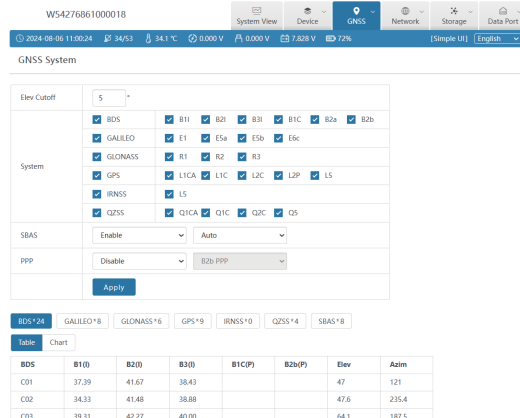

Figure 2.3-2
- ① GNSS System: Elev Cutoff: Set the Elev Cutoff;
- ② Satellite List: There are many satellite systems available, such as BDS, GALILEO, GPS, GALONASS, etc. If you find that the device receives fewer satellites under normal conditions, you can enter the page to check whether all satellite systems are turned on, click the small box at the back to turn on/off the corresponding satellite system.
- ③ SBAS: Choose to turn on or off the satellite-based augmentation system;
- ④ PPP: Select to disable or enable PPP mode, as shown in Figure 2.3-2